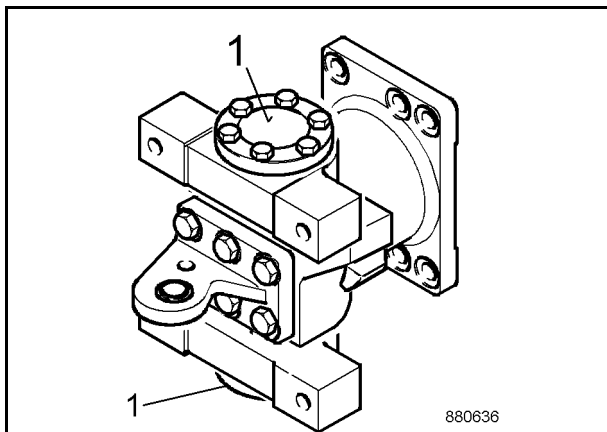

Fig. 18
26. Fasten the bearing covers 1 (Fig. 18) on both sides with screws.